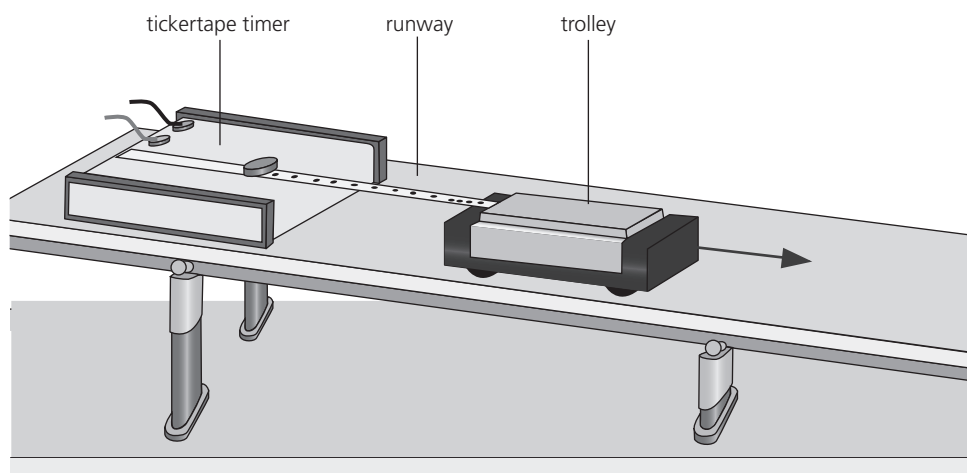

Figure 2
- 1 Set up a sloping runway, tickertape timer and trolley as shown in Figure 2.